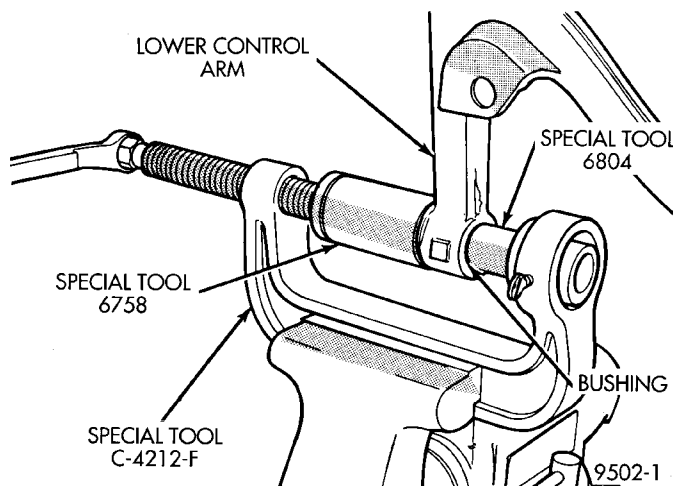

Fig. 72 Removing Front Bushing From Lower Control Arm
(3) Install lower control arm on Special Tools assembled for removal of the front isolator bushing as shown in (Fig. 72). Be sure Special Tool 6758 is square on lower control arm and Special Tool 6804 is positioned correctly on isolator bushing.
(4) Tighten screw on Remover/Installer Special Tool C-4212-F to press front bushing out of lower control arm.